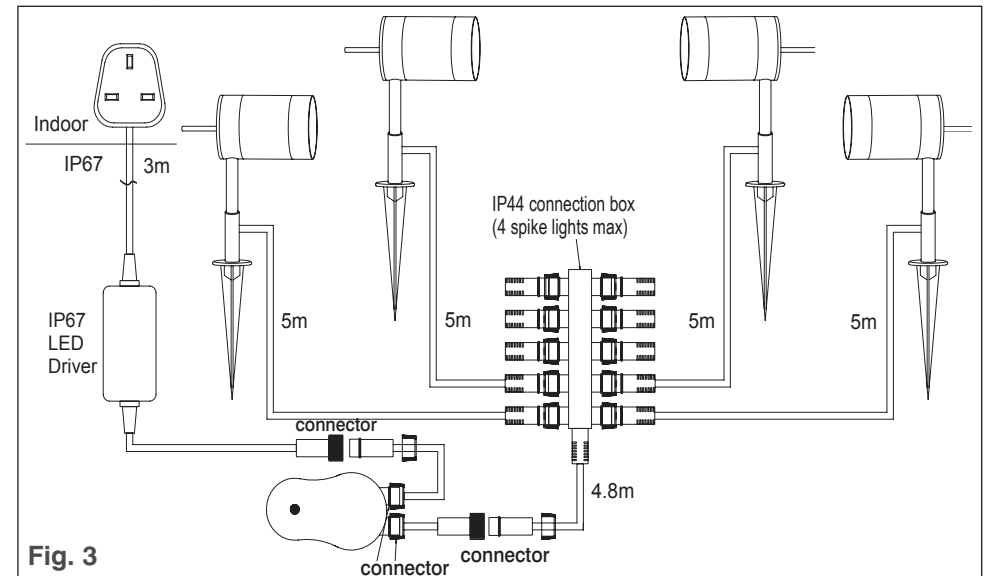

Fig. 3
- See Fig. 3. Plan the desired position for these fittings carefully, ensuring the cables will reach the distances between the indoor plug, the outdoor transformer and each light fitting.